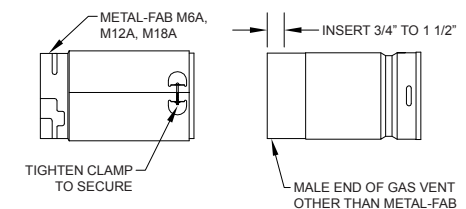

FIGURE 2A
5. Install the B-Vent cap (MC) onto the B-Vent.
6. If a UL Listed gas vent other than Metal-Fab is to be connected to the inlet end of the Metal-Fab B-Vent, use the M6A, M12A, or M18A gas vent adapter. Insert the male end of the other gas vent into the gas vent adapter and secure by tightening the clamp on the adapter (See FIGURE 2A). If Metal-Fab B-Vent is to be inserted directly into the inlet end of a UL Listed gas vent other than Metal-Fab, secure by using three (3) 1/4 inch (6.4 mm) long sheet metal screws. Do not penetrate the flue (See FIGURE 2B).